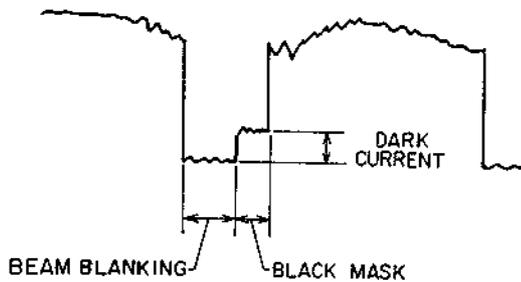

Fig. 5-18
The reverse current (I_{sh}) of a photodiode increases in step with the increase of incident light. (See Figure 5-18.) If the amount of incident blue (OUTDOOR) light increases, the output voltage ($I_{sh} \times R_2$) at pin ⑥ of IC1 increases. (See Figure 5-19.) This voltage is routed through a voltage follower (IC2) and is then compared in a comparator (IC6) with the output voltage derived from the incident red (INDOOR) light. In this case, since the blue (OUTDOOR) detection level is higher, the output at pin ① of IC6 goes to "H" and TR14 is activated. Pin ⑩ of IC7 also goes to "H" and then pin ⑨ goes to "L". As a result, R80 goes to GND and the gain of the RED signal amplifier is increased. In this manner, the differ-